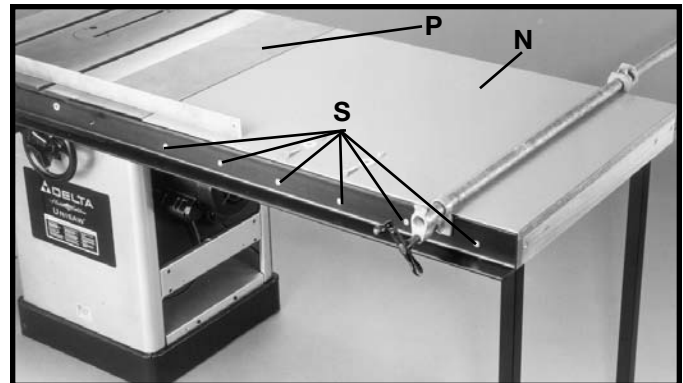
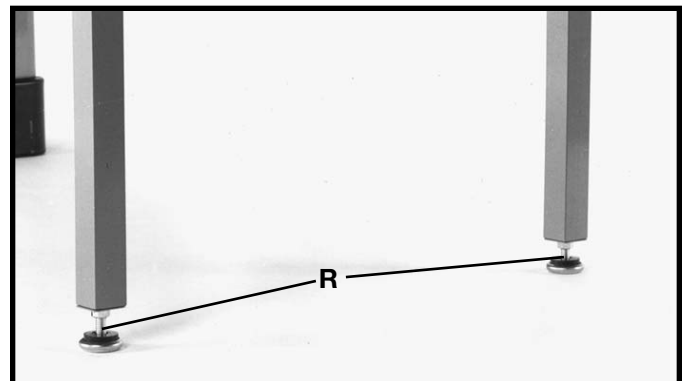

Fig. 95
Fig. 96
1. Place table assembly (N) Fig. 95, in position between the two rails, as shown. Make sure end of table (N) is flush against extension wing (P). Using a straight edge make sure table (N) is in the same plane and level with saw table (P). Lightly tap table up or down and adjust leveling screws (R) Fig. 96, in bottom of legs to accomplish this. When the table (N) Fig. 95, is level and in the same plane with saw table (P), drill 1/4" through holes (S) Fig. 95 through the front and rear of the extension table using the holes provided in rails as template.
2. After the holes have been drilled in the edge of the front and rear extension table board, fasten both front and rear rail to table using the 1-1/2" flat head Phillips screws, flat washers, and hex nuts (S) Fig. 95.